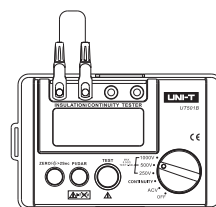

Figure 4
In order to check whether the measurement values are accurate or not, UT501B has been designed with a 10MΩ resistor. The resistor offers 1% accuracy for self-check internally. Refer to the wiring operation as follows: (See Figure 4)
**Operating instructions:** connect wire as indicated in the figure 4, then switch to any insulation measurement range, press down TEST button, LCD will display the value 10.0MΩ.